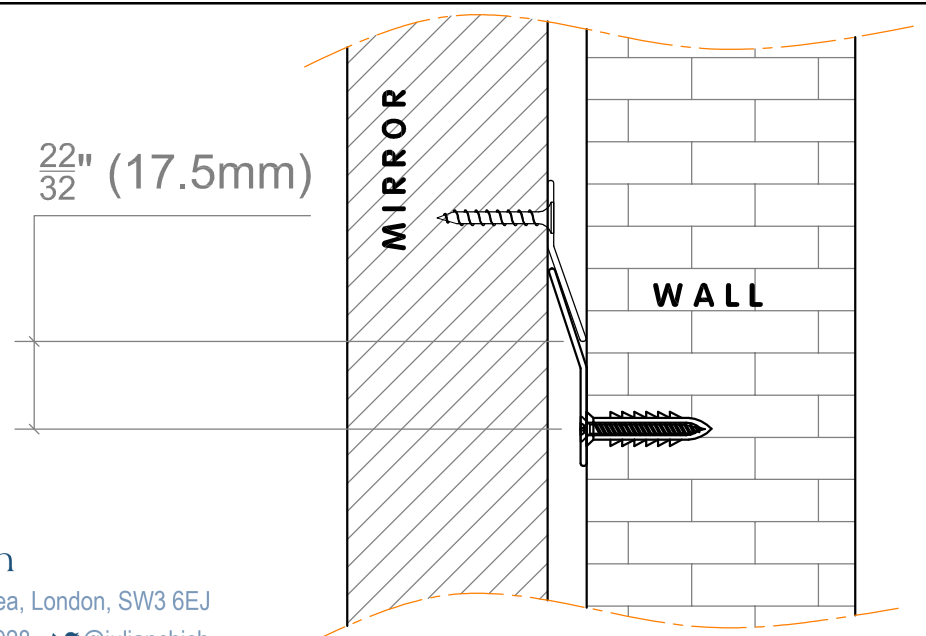

Fig 2.
2. Determine the exact location of the fixture and mark the holes on the wall surface using the holes in the aluminum hanger (A) as a guide. Fig 2 shows the distance between the two hangers.
3. Drill small holes on each point location on the wall. Each hole should be just large enough to accommodate plastic wall plug (C).
4. Insert the plastic wall plug (C) into the holes on the wall.
5. Mount the aluminum hanger into the wall using screw (B).